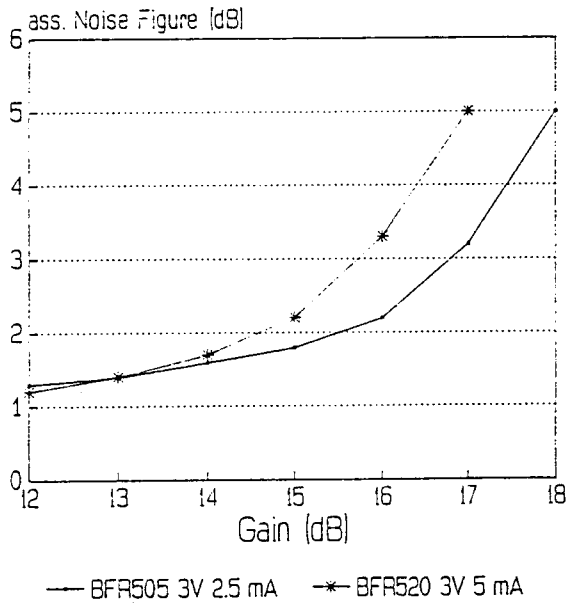

Fig. 1 Gain and associated Noise Figure
To show what trade-off can be reached figure 1 shows the results of Touchstone (R)* simulations based on the noise and gain parameters from the Touchstone Data diskette**.